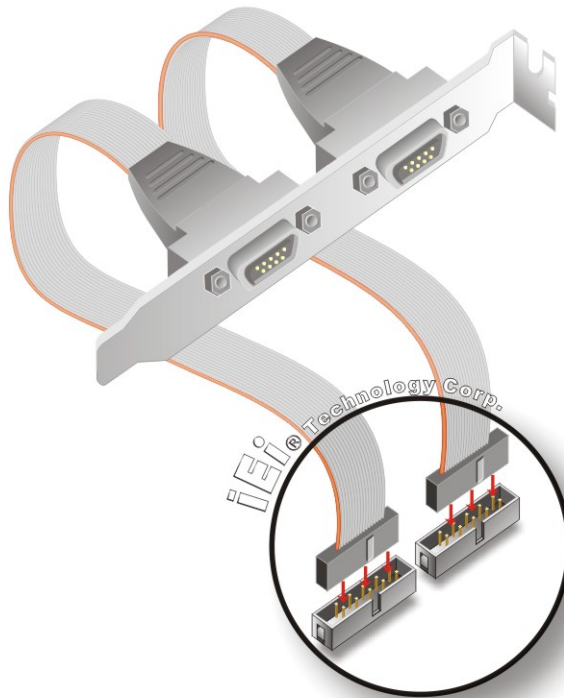

Figure 5-12: Dual RS-232 Cable Installation
Step 6: Insert the cable connectors. Insert one connector into each serial port box headers. See Figure 5-12. A key on the front of the cable connectors ensures the connector can only be installed in one direction.